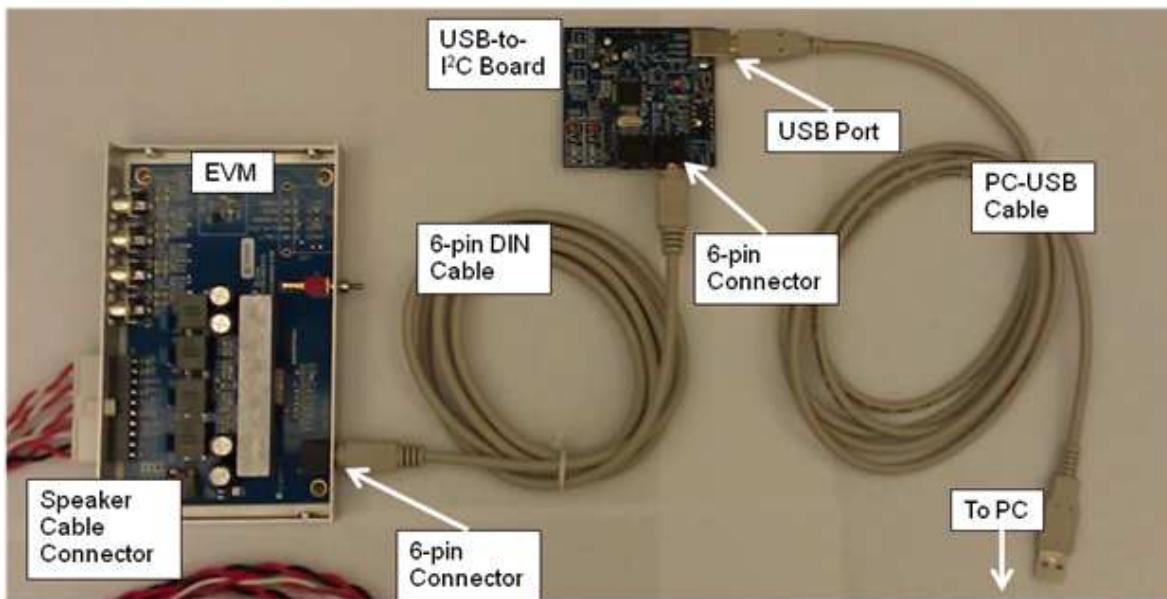

Figure 1. EVM to I²C Device Connections
The EVM consists of a single printed circuit board (PCB) mounted inside a metal chassis for EMC testing. The EVM must have an external I²C controller board to function. The USB-to-I²C controller board connects to a personal computer (PC) through a USB cable. The EVM connects to the I²C controller through a supplied 6-pin DIN cable. The PC needs the graphical user interface (GUI) software to control the EVM. See Figure 1 for the device connections.
In the EVM package is a small PCB labeled USB2IIC2 on the PCB. This is the USB-to-I²C converter to communicate from the PC to the EVM. Connect the USB cable to the PC and the PCB. Connect the 6-pin cable to the connector labeled I²C on the converter PCB to the 6-pin connector on the EVM. The USB connection provides power for this card. The PC should automatically connect to the USB-connected PCB. See Figure 1, EVM to I²C Device Connections, for more details.